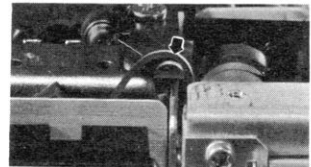

Fig. 14
- 2) Arrange the relay belt on the mechanism boss. (Refer to Fig. 14)